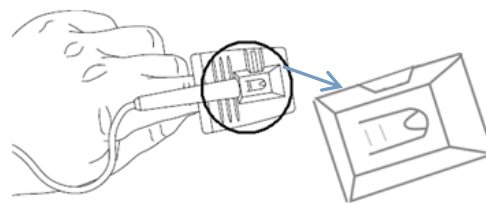
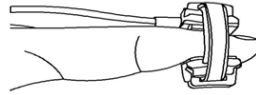

Figure 2 Finger Rubber Probe
Figure 4(A/B) Y-type Probe on Finger/on Sole
3. For Adult Finger Rubber SpO₂ Probe, insert one finger (index finger is preferred, but middle or ring finger with proper nail length is possible as well) into the probe according to the mark on the probe cap, as shown in Figure 2. Note that the finger should be inserted deeply enough so that the light emitted from the opto-probe (at one side of Y-type probe) will transmit through the finger bone for light scattering before reaching to the receiving part of the Y-type probe.
4. For Universal Y-type with Rubber Wrap SpO₂ Probe, it can be wrapped onto finger or sole (especially for infant). This probe is shown in Figure 2 with open status, the rubber wrapper can be removed from the Y-type probe for cleaning, the wrapper fixation can be adjusted for probe alignment and proper tightness. Place the Y-type probe into its seating position within the wrapper and open the wrapper belt before wrapping onto finger or sole. When used on finger, put the finger inside the wrapper so as it is between the two sides of Y-type probe, then wrap the wrapper belt around the probe as illustrated in Figure 4(A). When used on sole, place the sole within the wrapper and wrap it up around the sole, then tighten the rubber belt with proper force as illustrated in Figure 4(B), it is strongly recommended to use self-adhesive gauze to fix the probe cable nearby the measuring site, so that the relative moving between the probe and the part to be measured could be avoided to increase signal quality.